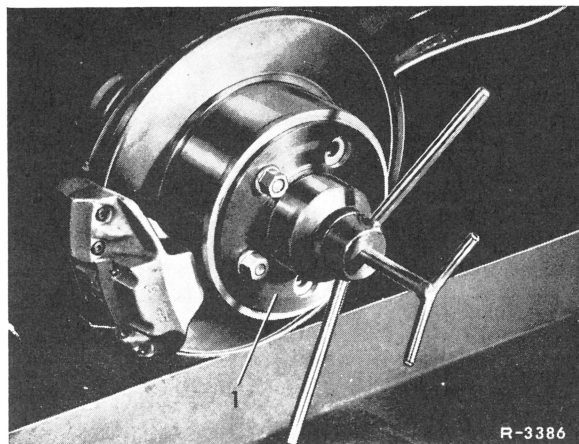

Fig. 3
- 4 Force rear axle shaft out of rear axle shaft flange by means of assembly fixture (Fig. 3).